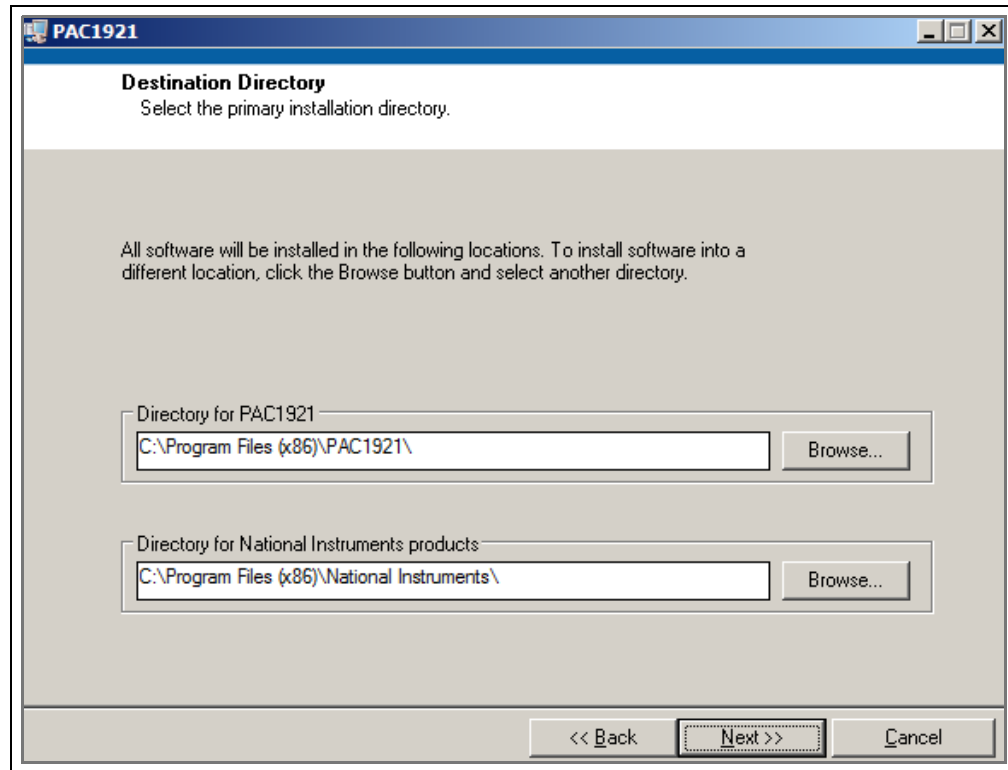

FIGURE 2-2: Software Installation – Setting the Destination Directory.
2. Click **Next** in the Destination Directory window, shown in Figure 2-2. For proper operation, the files must be installed in the default locations. The default location for the software files is C:\Program Files (x86)\Microchip\PAC1921 and for the LabVIEW™ software is C:\Program Files\National Instruments.